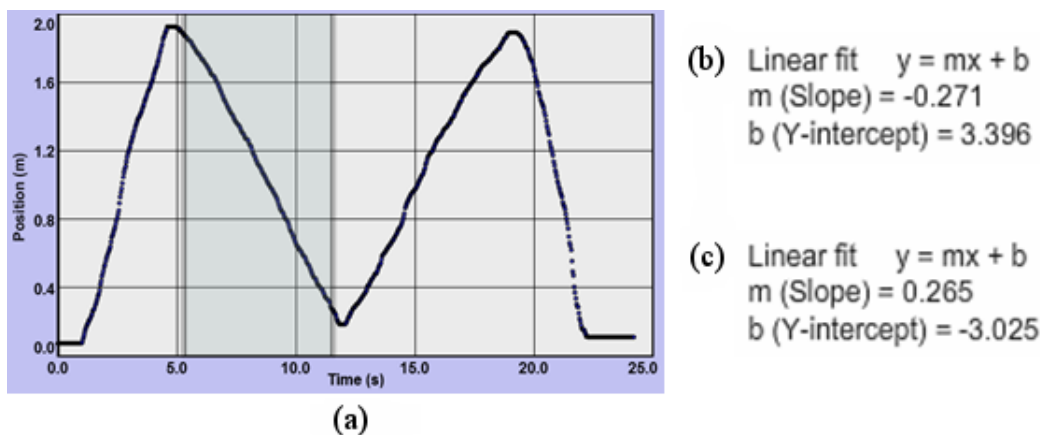

Figure 3: (a) The “M”; (b) and (c) Linear Fit Data
Congratulations, you’ve made a capital M. (See Figure 3(a).) If not, give it another try.
- 1 In Grapher, click at a point somewhere in the graph a bit to the right of the time when the first of the two inside segments begins. (See the left edge of the shaded area in Figure 3(a) at about 5.3 seconds.)
- 2 Drag to the right. A gray box will appear. Continue dragging until you’re near the end of that segment and then release (at about 12 seconds in Figure 3(a)).
- 4 With the data still selected, click the "Linear Fit" check box. Data will now appear in the "Linear Fit" data box. Grapher has drawn the **line of best fit** for that part of your graph in pink. The values for the M-graph shown in Figure 3(a) are displayed in Figure 3(b).
- 5 Now repeat for the next segment to the right, the rising segment inside the M. You now have a second line of best fit. Its data will appear in the text box as shown in Figure 3(c). The two slopes are -0.271 m/s and 0.0265 m/s. **These slopes are the average velocities, $\Delta x/\Delta t$, for these two segments.** They are calculated using a mathematical technique called *linear regression*.